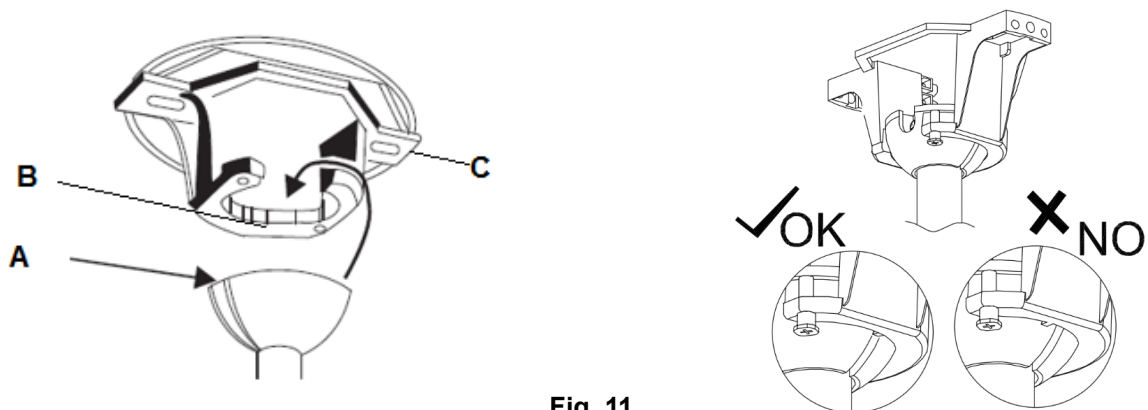

Fig. 11
Lift the fan assembly onto the mounting bracket. Ensure the key slot (A) of the hanger ball is positioned on the key pin (B) of the mounting bracket (C) to prevent the fan from rotating when in operation. (Fig. 11)